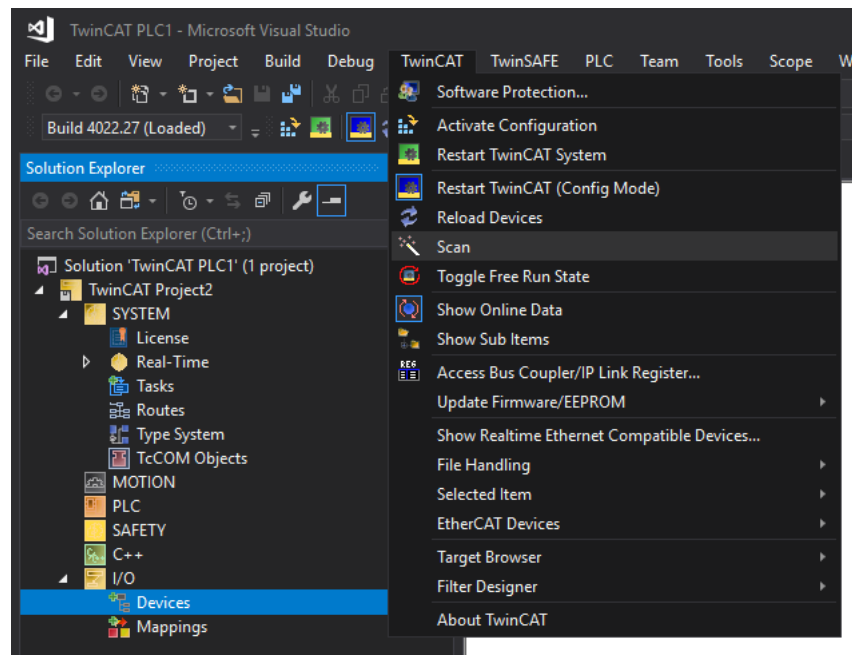

Fig. 6-22 Scanning for Gantner measurement devices (TwinCAT 3)
1. For *TwinCAT 3*, in the Solution Explorer, highlight **Devices** under **I/O**, and select **TwinCAT > Scan** (Fig. 6-22) in menu.